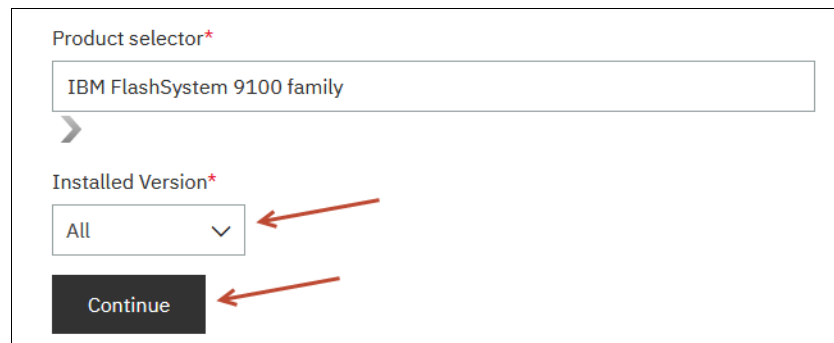

Figure 8-27 Product selector version
2. Select the version (Figure 8-27) that you want to download or select All to see all available options, then click **Continue**.